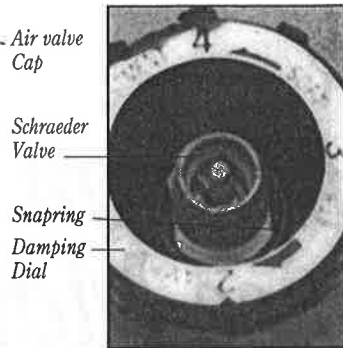

Fig. 2
5. Press down on the top of the damping dial and remove the small snapring at the base of the schraeder valve (Fig. 2).